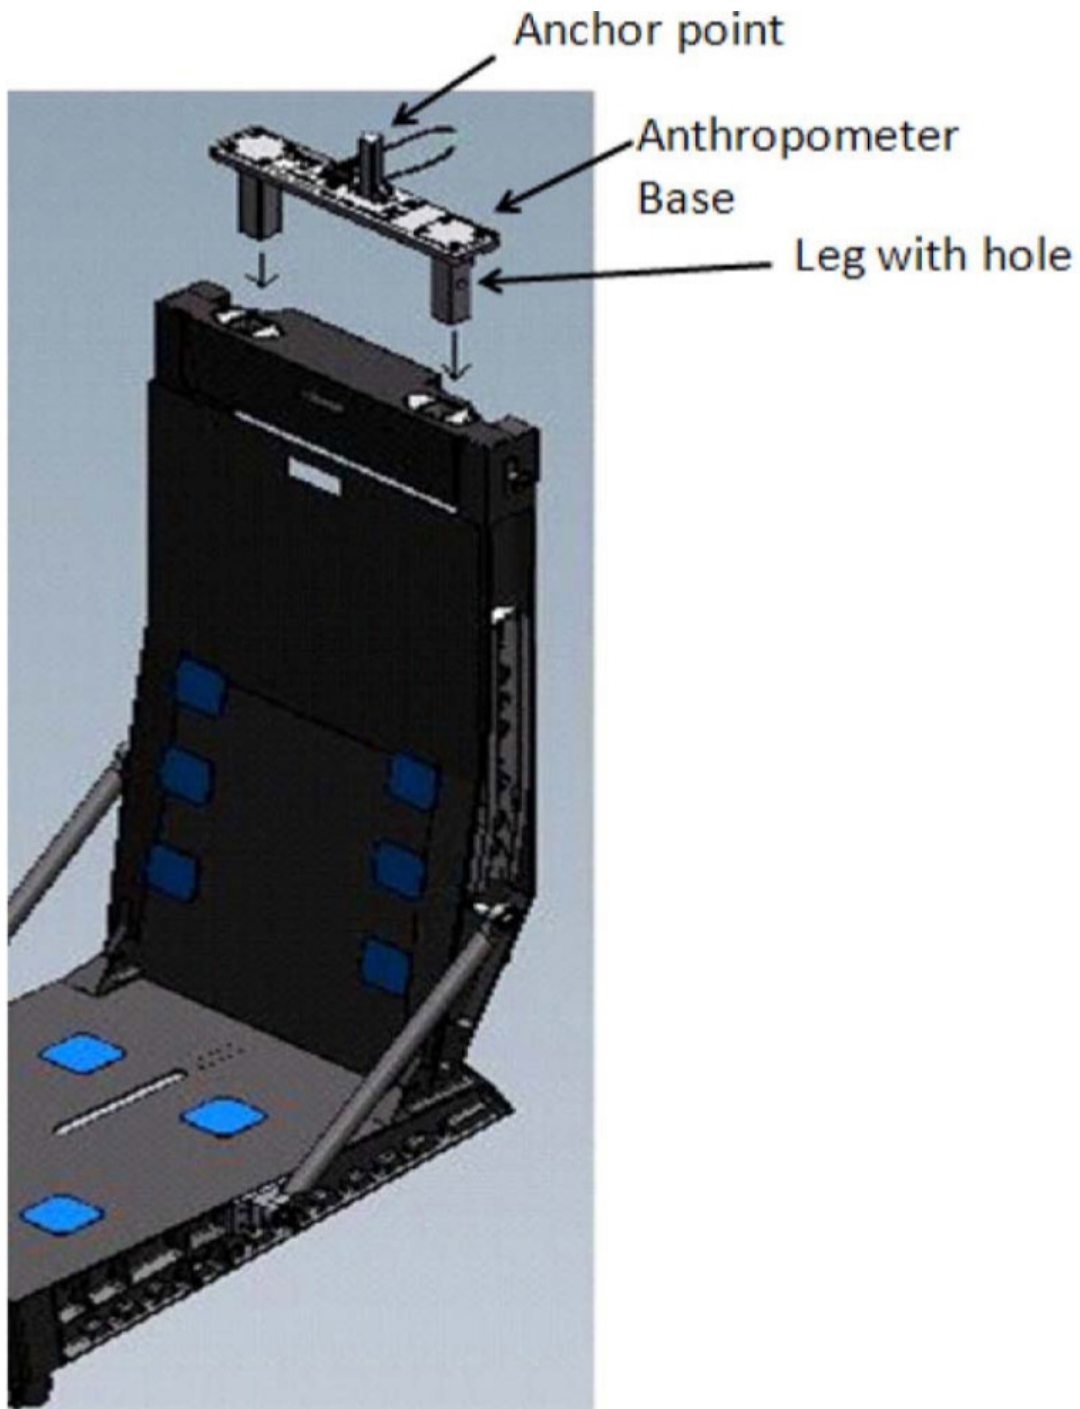

Figure 2. Anthropometer Base on CDR Seat
- 2.7.2 To setup Anthropometer Base, hold Anthropometer Base by the anchor point, slide the legs of the Anthropometer Base into the head rest holes on top of the seat. Refer to Figure 2.